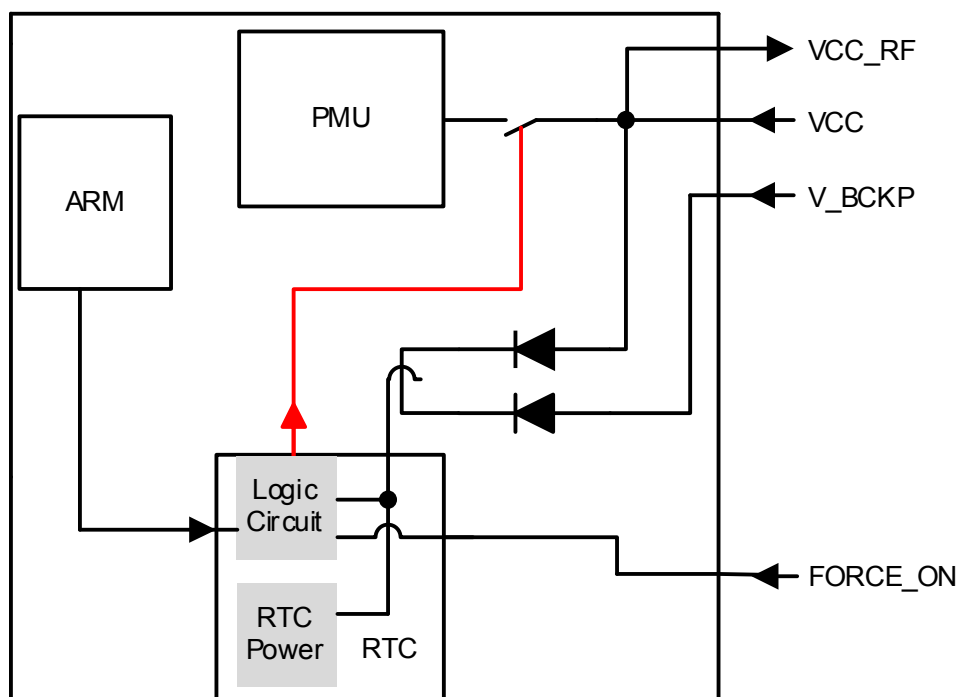

Figure 3: Internal Power Construction
- Send command “\$PMTK225,4*2F” (the red signal line opens the switch in **Figure 3**) to enter into backup mode constantly. The only way to wake up the module is by pulling FORCE_ON pin high (the red signal line closes the switch in **Figure 3**).